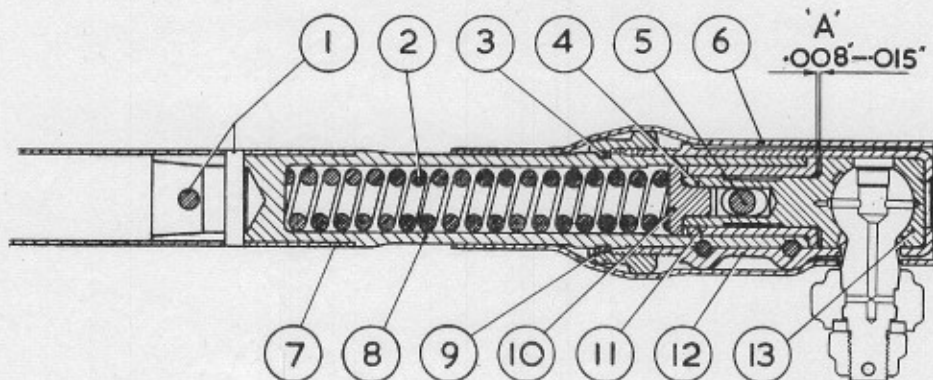

FIG. 1. SECTION THROUGH CROSS STEERING TUBE JOINT.
- (ii) Slacken off the steering joint nut (9 Fig.1), of the original tube from one to two flats and remove the two clamping bolts from the end of the tube and then carefully remove the tapered cotter pin (5) situated between the clamping bolts.
- (iii) Unscrew the steering joint nut from the sleeve (12) and remove all parts from the end of the tube taking care to note the position of any packing washers (shims) that may be found to be fitted. Slide or lightly tap the steering joint nut down the tube which will expose the retaining ring (3) fitted beneath it. Remove the retaining ring and the nut. Repeat for the opposite side of the tube. Keep right-hand and left-hand parts removed in separate containers and thoroughly clean all parts.
- (iv) The next operation is to assemble all the parts removed (with the exception of the cotter pins) from the original tube to the new tube and loose end piece in order to set a gap of .008" to .015", (as shown at point 'A', Fig. 1), at each end of the tube as described below and then drill and ream the tube to take the tapered cotter pins also described below.
- a) Place one of the steering joint nuts (9) on the tube or the loose end piece and then fit the retaining ring (3) in the groove provided.
- b) Place the spring (2) into the tube and assemble to the tube the remainder of the parts (including any packing washer/s should they have originally been fitted) in their proper sequence (See Fig. 1) including the ball pin.
With the outer ball pad (13), in position in the sleeve, slide the sleeve into position on the tube. Engage the threads of the steering joint nut with those of the sleeve and screw up the nut until there is a gap of .008" to .015" at point 'A' Fig.1, i.e. between the rear face of the inner ball pad (4) and the corresponding face of the steel bush (11), into which the ball pad is fitted. The clearance is necessary so that the spring can operate freely.